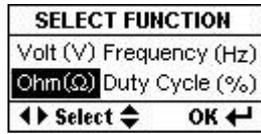
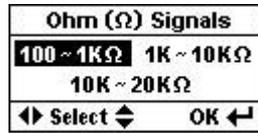

Fig.13
Fig.14
- While the menu display screen (Fig. 5 above) select [Ohm Ω] Fig. 13 by pressing \blacktriangledown key once and then press OK \downarrow key will enter into the Resistance simulation menu (Fig. 14) below.